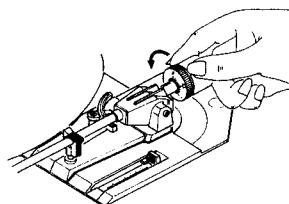

Fig. 17
5. Turn the counterweight in the direction 0-1-2 until the "1.75" (for the JVC MD1055II) mark on the tracing force dial is aligned with the index line. (Fig. 17)